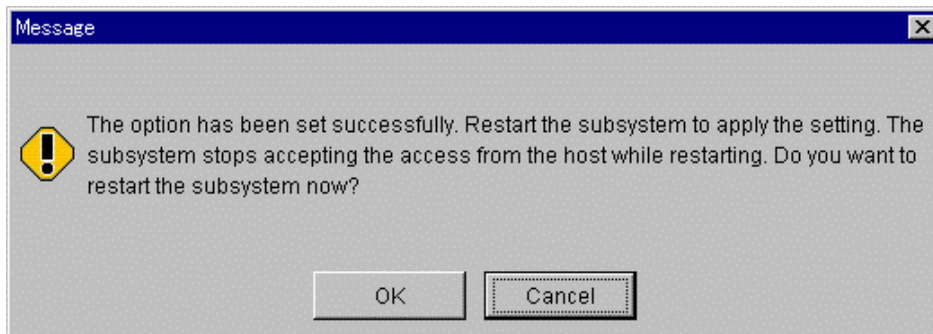

Figure 5.2 SNMP Agent Confirmation Window
7. A screen appears, confirming that the SNMP agent has been set up (see Figure 5.2). This message also asks you to restart the system. Click the **OK** button.